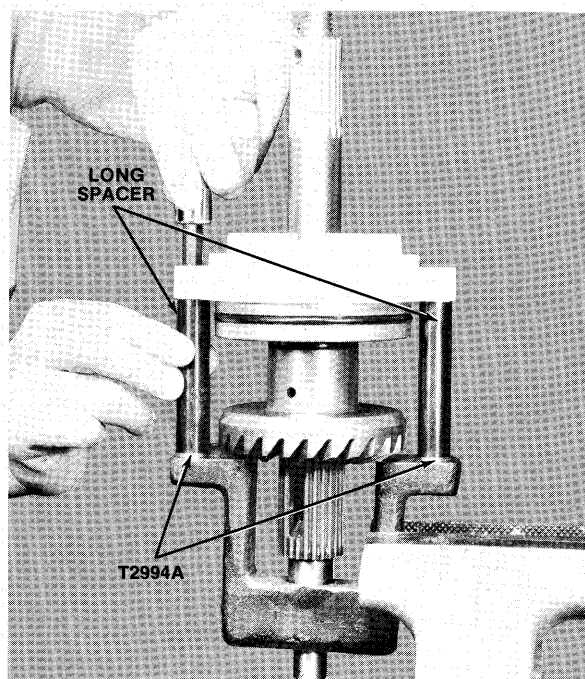

Figure 14—Tightening Spacer Screws
- I. Install screws (supplied with tool) through flanges on bearing cage spacers (and shim set if required) and thread into checking gauge. Tighten screws while rotating spacers with fingers until spacers cannot be rotated as shown in figure 14. Then torque screws to 25 in. lbs. or tighten screws 1/8 of a turn with wrench.